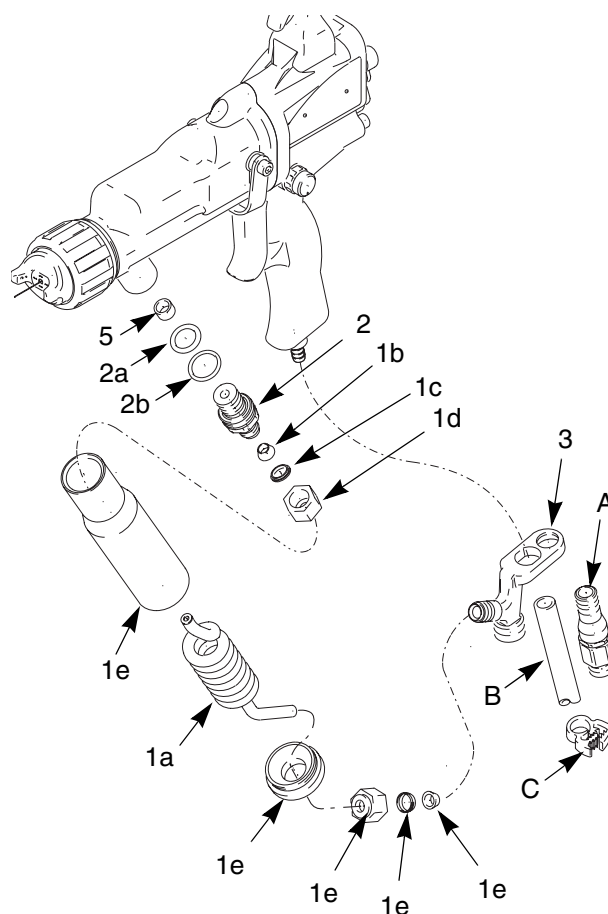

FIG. 3: 244919 Conversion Kit
6. Install the new bracket (3) from the kit loosely. See FIG. 3.
7. Place the spacer (5) in the barrel inlet. Apply Graco dielectric grease (4) to the o-rings (2a, 2b) and to both threads of the fluid fitting (2). Thread the fitting into the barrel inlet.
8. Thread the nut (1d) onto the fitting (2). Make sure the ferrules (1c and 1b) are on the tube (1a) and are seated on the fitting (2) before tightening the nut (1d).
10. Insert the end of the coiled tube (1a) into the bracket (3). Make sure the ferrules (1c, 1b) seat on the bracket.
11. Secure the bracket by tightening the swivel (A). Tighten the nut (1d). Reinstall the exhaust tube (B) and clamp (C).